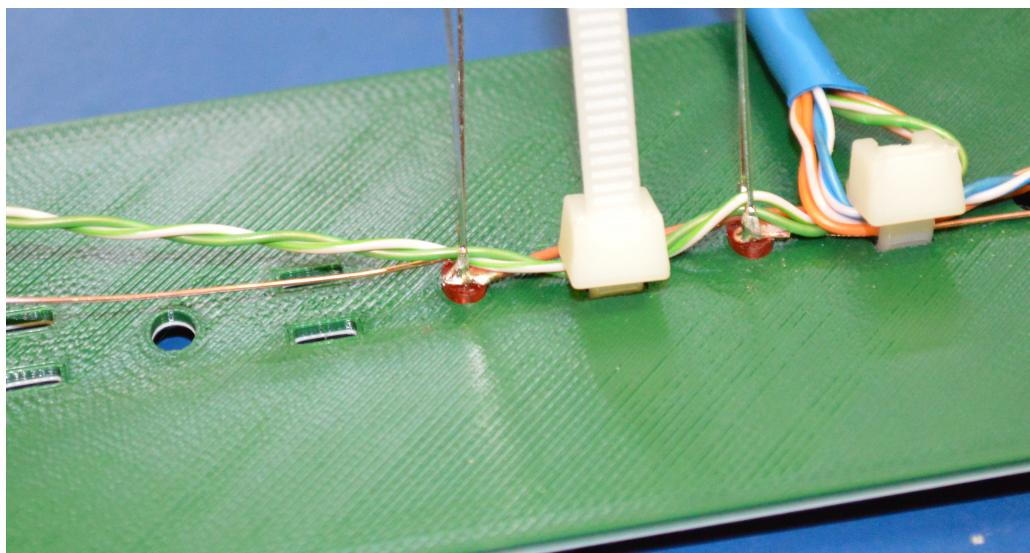

Figure 2.9: Solder the Second LED and Add a Cable Tie
- Solder the next LED and add a cable tie between them. See Figure 2.9.